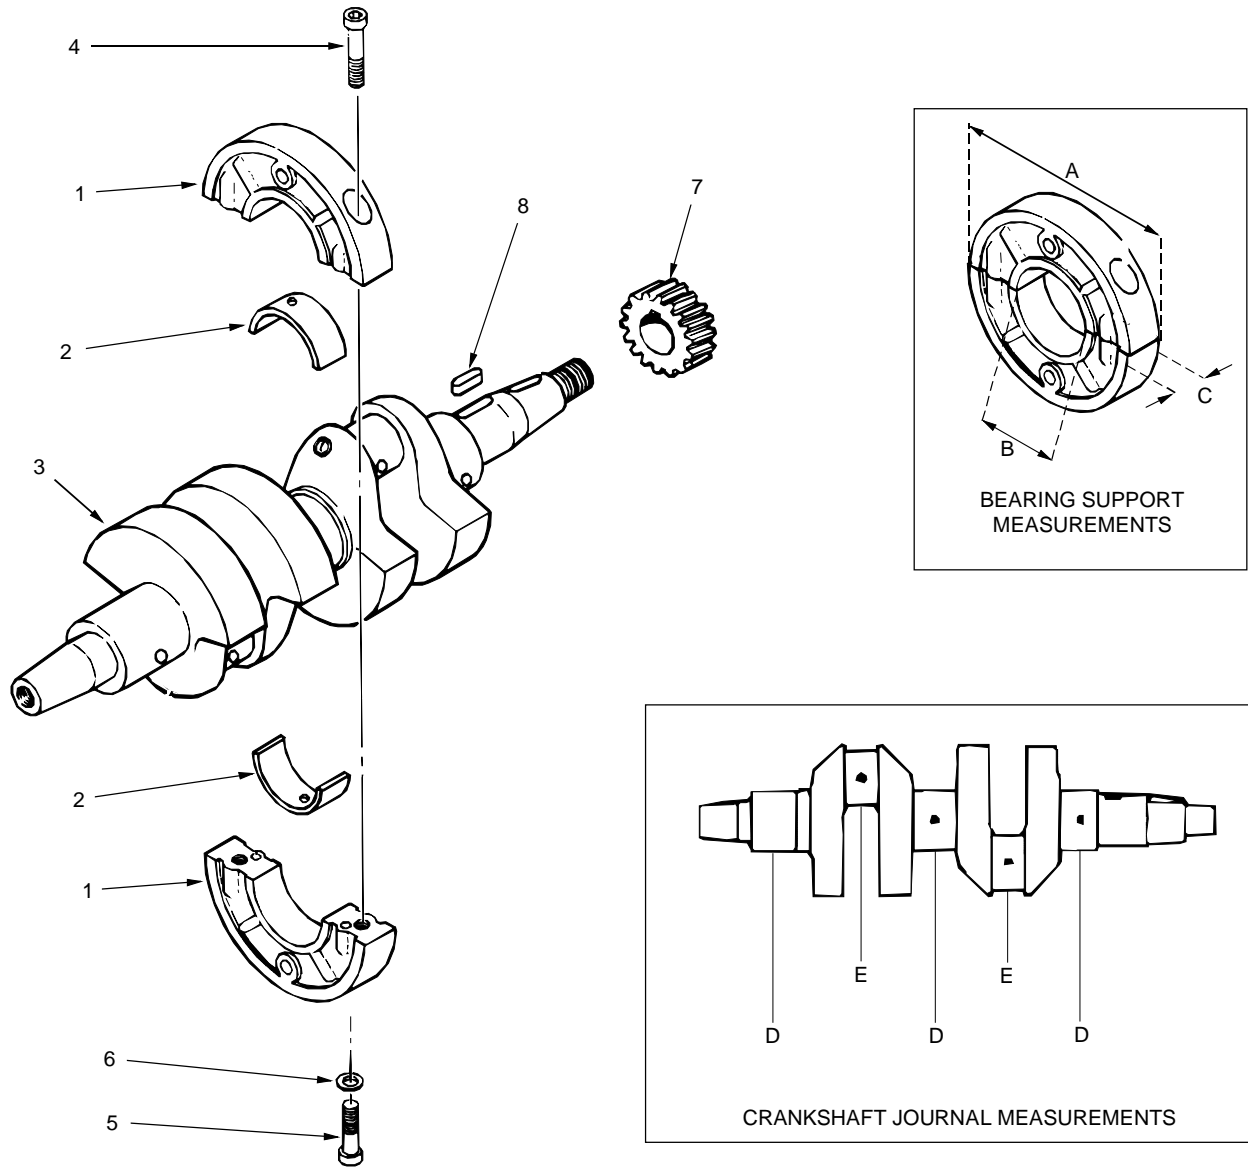

Figure 1. Crankshaft Assembly Installation
**INSTALL CRANKSHAFT AND REAR CRANKSHAFT SUPPORT** (Refer to Figures 1, 2 and 3.)
Refer to Figure 1.